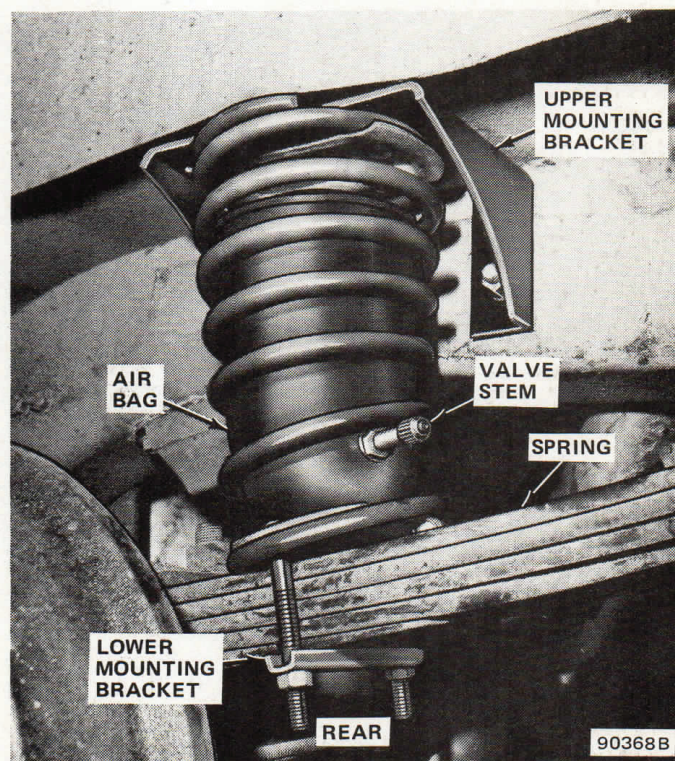

Fig. 8-9 Rear Air Overload Spring (Typical)—CJ-Cherokee-Wagoneer Models
(1) Raise vehicle, remove rear wheels and lower axle 2 to 3 inches to allow working space.
(2) Remove spring clamp bar and position air overload assembly so that it straddles vehicle spring approximately 2 inches aft of axle U-bolt. Replace clamp bar and finger-tighten nuts (fig. 8-9).
(3) Raise axle or lower body until air spring bracket is adjacent to frame. With unit vertically aligned and bracket centered on frame, mark location for 4 mounting holes.
(4) Repeat steps (2) and (3) on opposite side of vehicle. Lower axle and remove air overload springs.